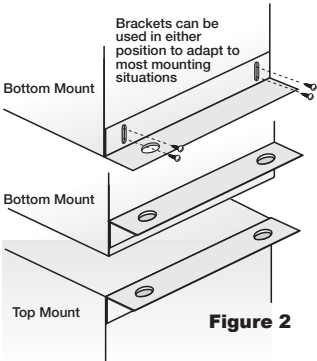

Figure 2
- Attach adjustable mounting brackets to fan, but leave the screws loose until proper height is determined, shown in Fig. 2. Cut hole to dimensions shown in table below.